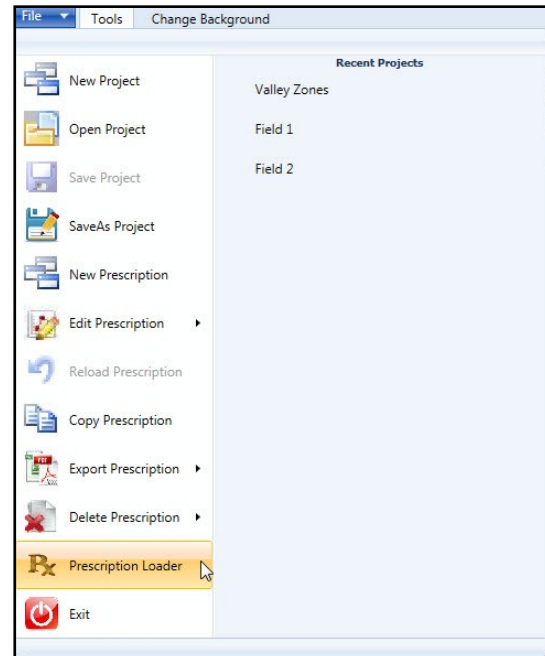

Figure 42-1 Select Prescription Loader
2. Select **Prescription Loader** in the VRI drop-down menu. See Figure 42-1.